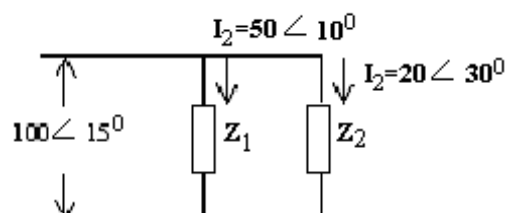

Figure 8b
- (b) For the circuit shown (figure 8b), determine the true power, reactive power and apparent power in each branch. What is the power factor of the total circuit? [4+12]